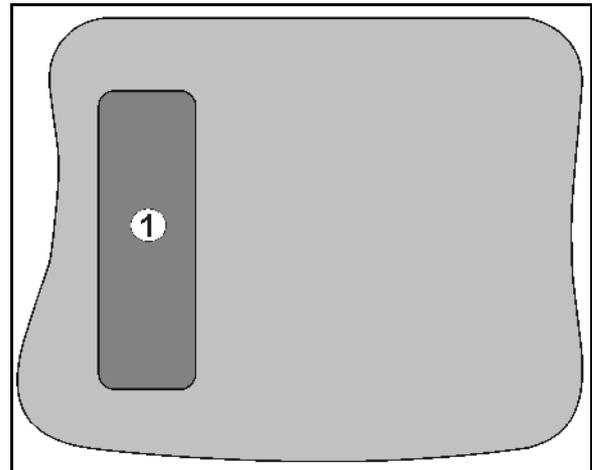

Fig. 9
- The shift key is located on the back of the unit  (Fig. 9/1).